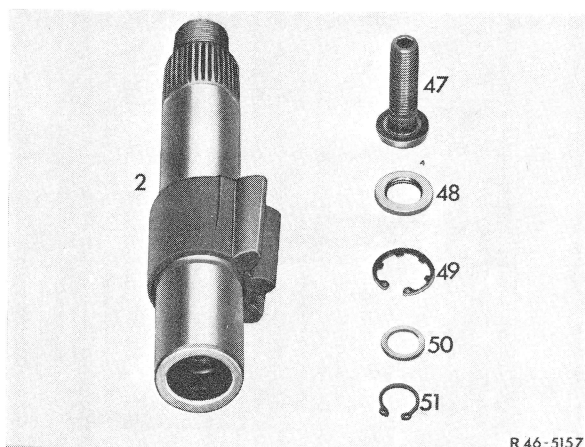

Fig. 4
4 Check pitman shaft (2) for wear at bearing points and for distortion or other damage. Replace pitman shaft, if required (Fig. 4).